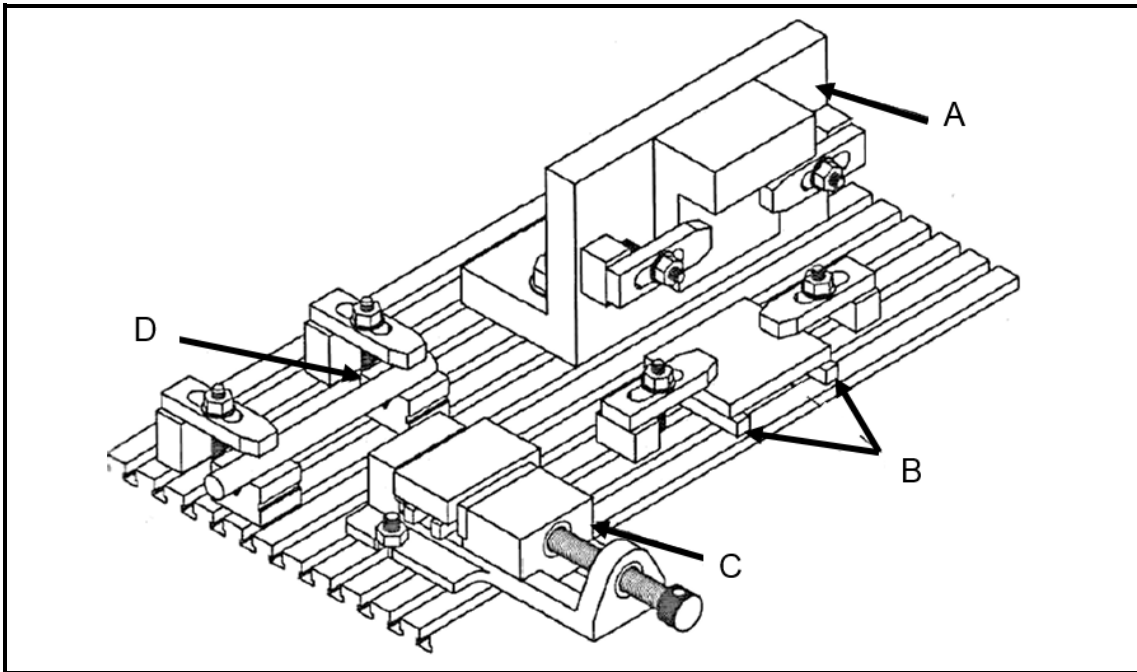

FIGURE 1
3.2 FIGURE 1 shows different holding fixtures.